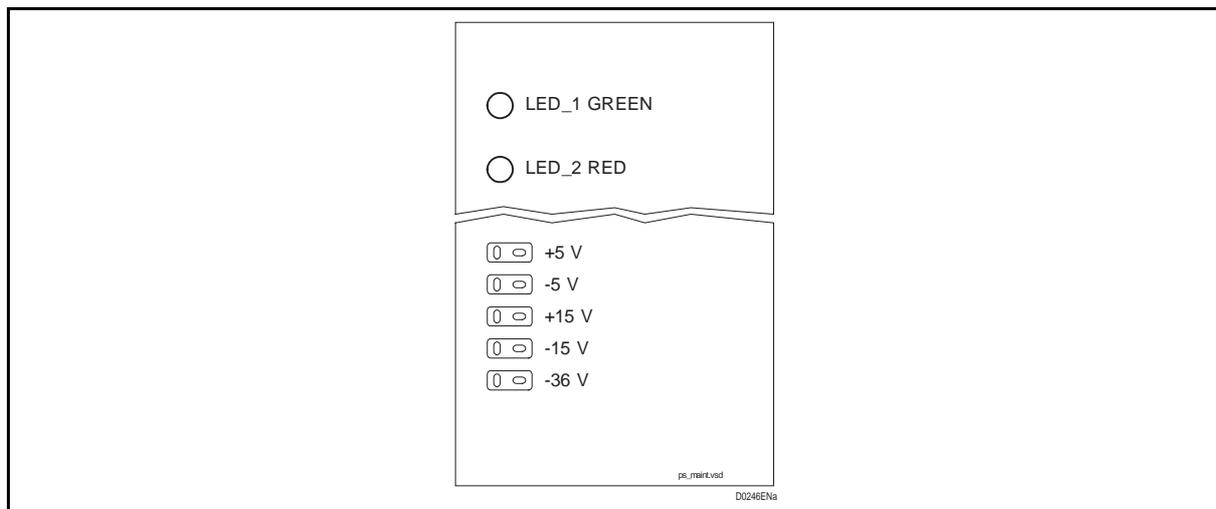

FIGURE 26 – POWER SUPPLY TEST POINT
3. Verify the output voltage: from top to bottom the 5 test point are respectively +5V; -5V; +15V; -15V; -36V (refer to figure 26 – Power Supply test point)